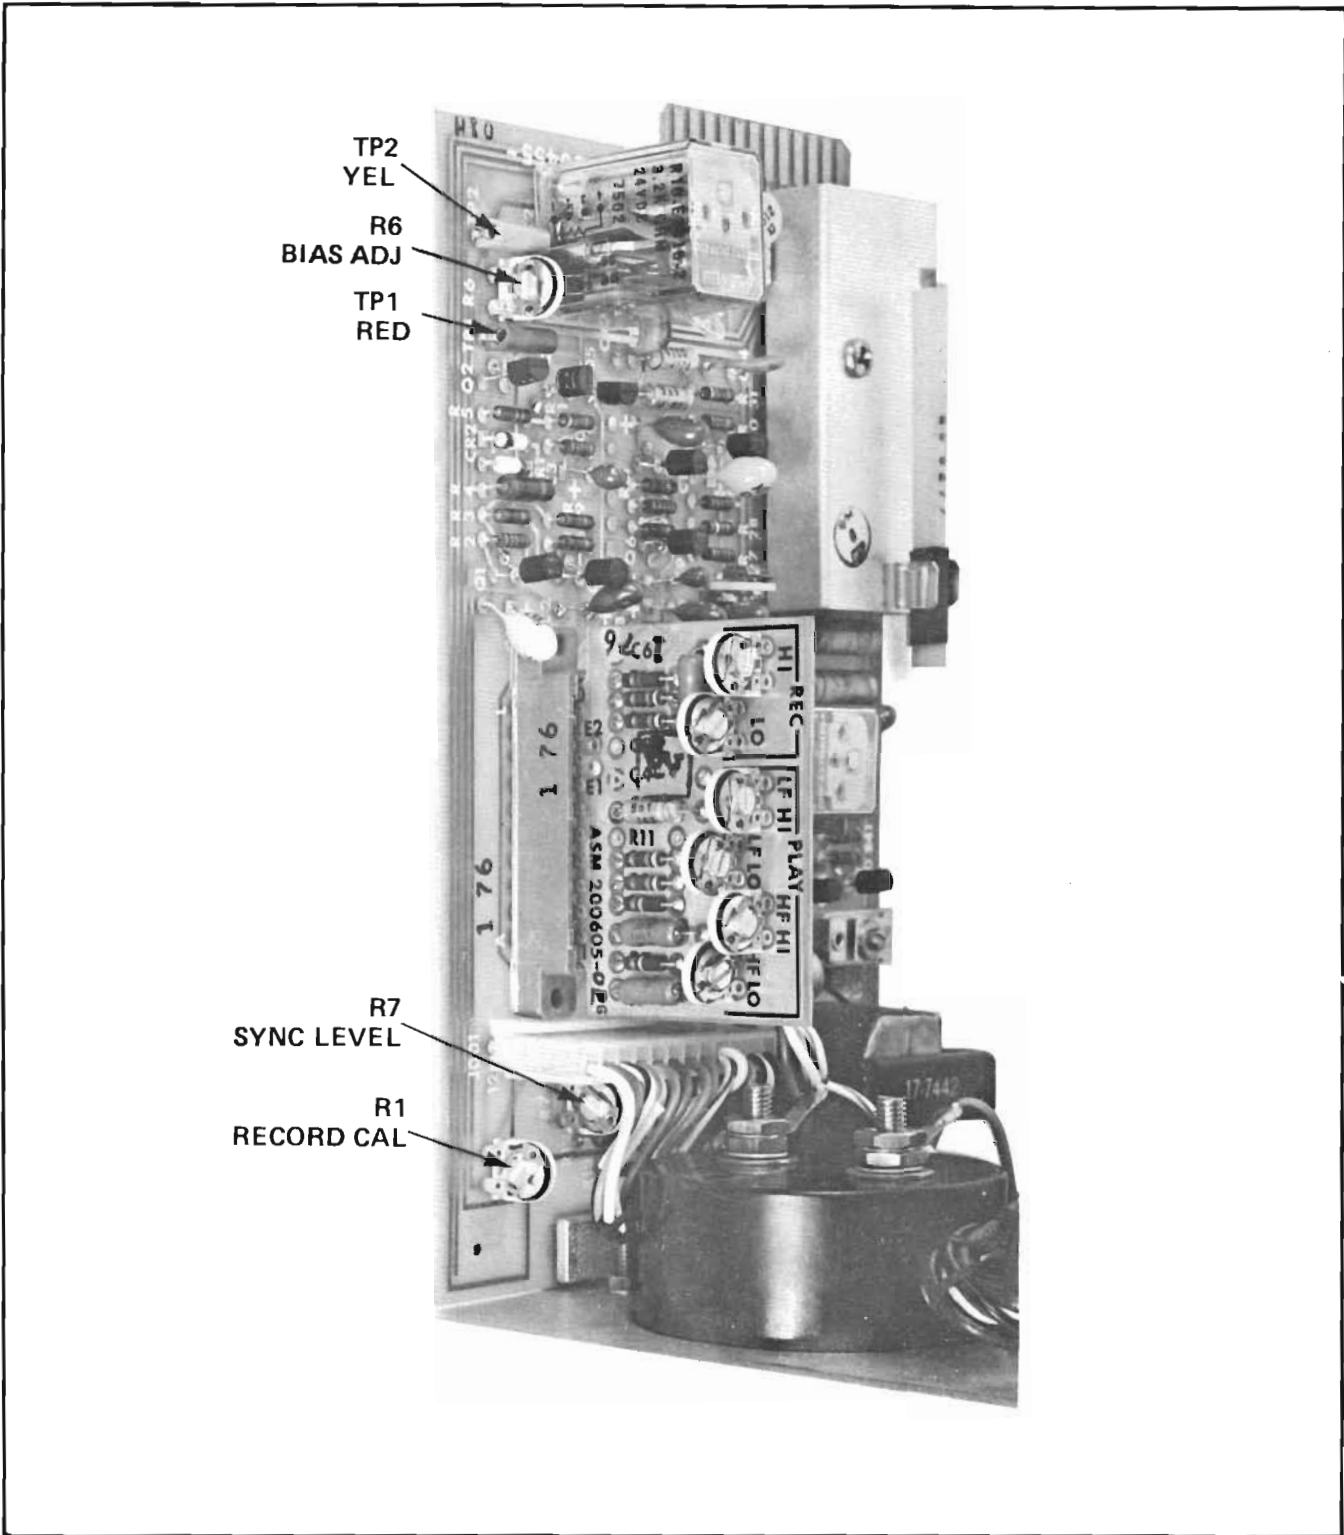

Figure 7-14. Record/Playback Amplifier PWA Adjustment and Test Points
- F. At corrected (250 nWb/m) reference tone from the standard test tape, adjust sync level potentiometer R7 (Figure 7-14) on the record/playback amplifier PWA for 0 vu, (+4 dBm on external meter).
- B. Rotate R6 bias adjust on the record/playback amplifier PWA (Figure 7-14) until a peak reading is indicated on the vu meter.